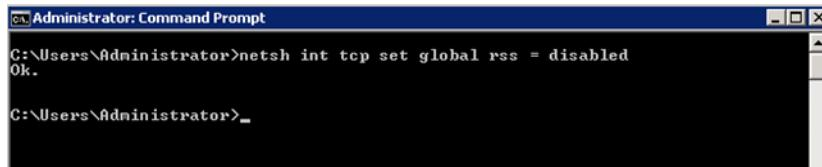

Figure 6-8. Disable RSS—Windows 2008
- Windows Server 2008—To disable RSS using the Windows 2008 networking stack, enter the following Windows command as the administrator, as shown in Figure 6-8: